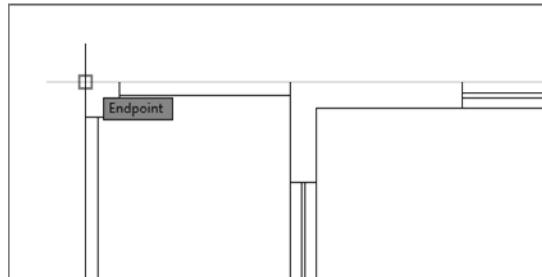

FIGURE 14.76 Specifying the Site Plan insertion point
4. Use the upper-left corner of the deck as the insertion point for the site plan reference (see Figure 14.76).